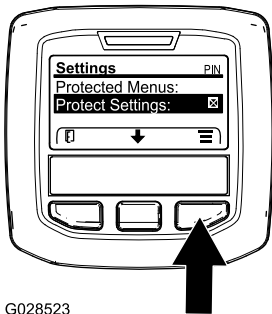

Figure 19
- From the MAIN MENU, use the center button to scroll down to the SETTINGS MENU and press the right button (Figure 19).